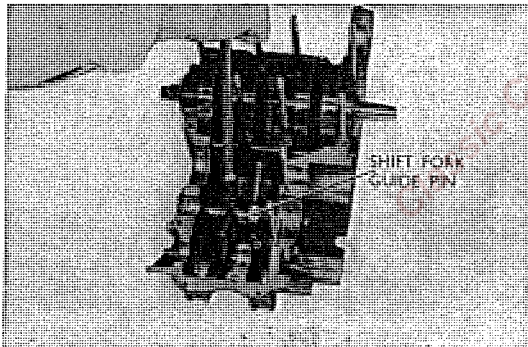

Fig. 3.123 Removing shift fork guide pin
2. Pull up the ear of the lock washer of the gear shift coupled to the upper crankcase and remove the shift fork guide pin. (Refer to Fig. 3.123)